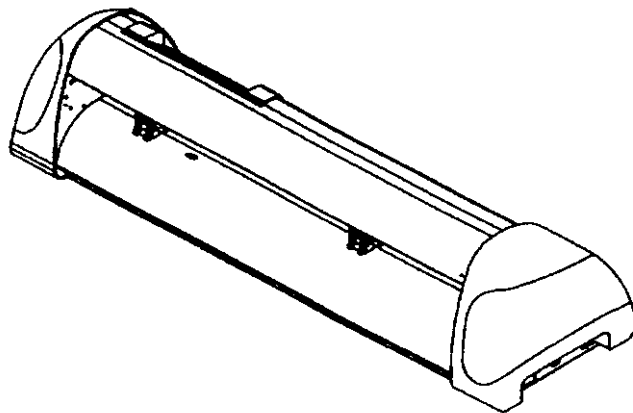

Figure 1-2
1.3 Back View of Lynx (Figure 1-2)